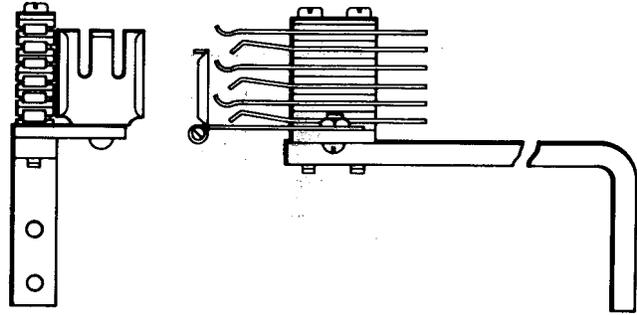

Fig. 13—384-Type Jack
2.13 **384A, B, and C:** These multicontact jacks (Fig. 13) each consist of a metal bracket, pileups of six contact springs, and number plate holders. Each spring pileup is arranged for a 240B plug. The terminals are arranged for mechanically wrapped connections. These jacks are intended for use on 161-type, 931A, 961D, 986-type, and similar mounting plates in dial systems.